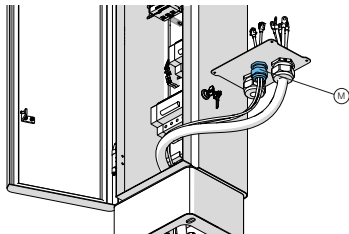

Fig. 3m
- For **Urban T / S**, shown in Figures 3m and 4m, the shielded network cable passes through a hole in the cable entry membrane (M).